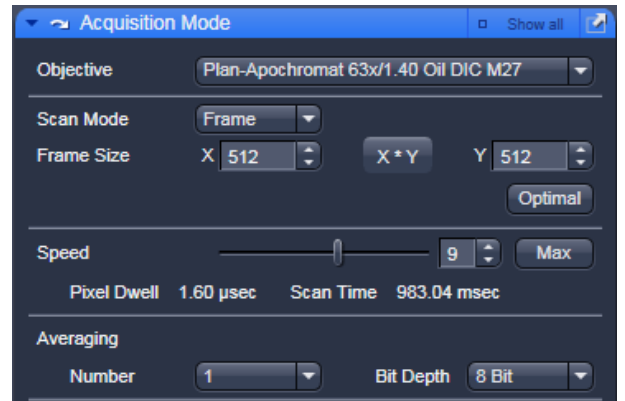

Fig. 5-62 Acquisition Mode tool
- Open the **Acquisition Mode** tool (Fig. 5-62).